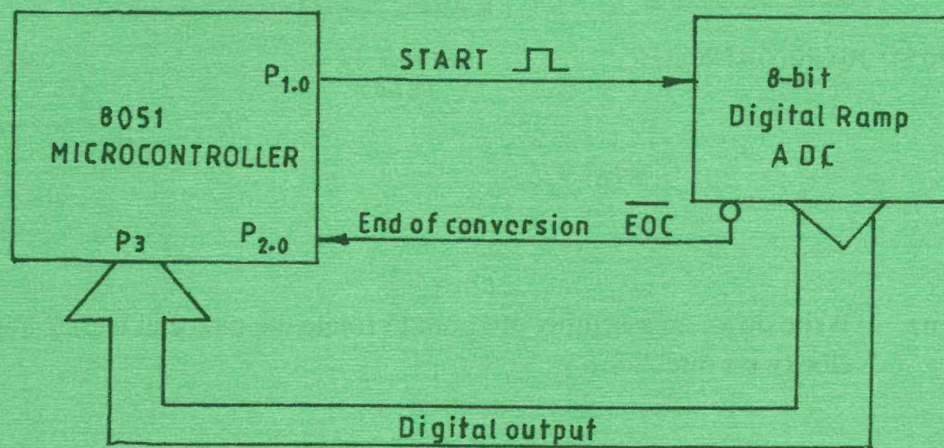

Fig. 1
- (c) Figure 1 shows an 8051 microcontroller connected to a digital ramp Analogue to Digital Converter (ADC) for data acquisition.